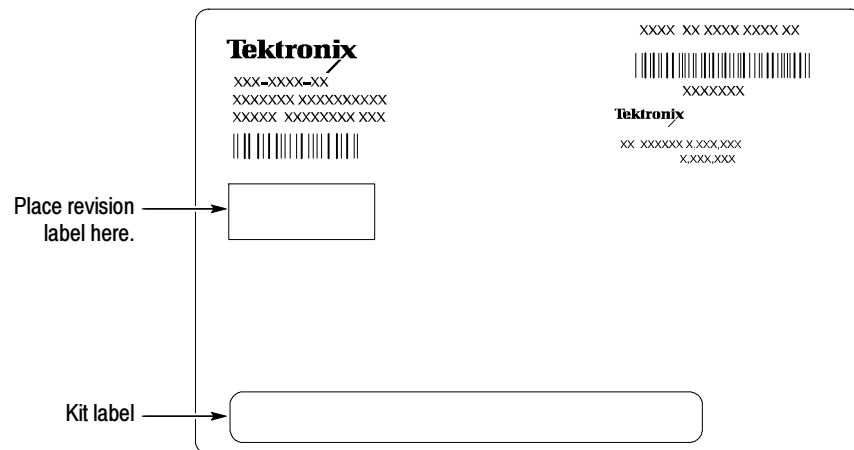

Figure 2: TLA700 module revision and kit label locations
19. Attach a new revision label and kit label on the big label for each module as shown in Figure 2.